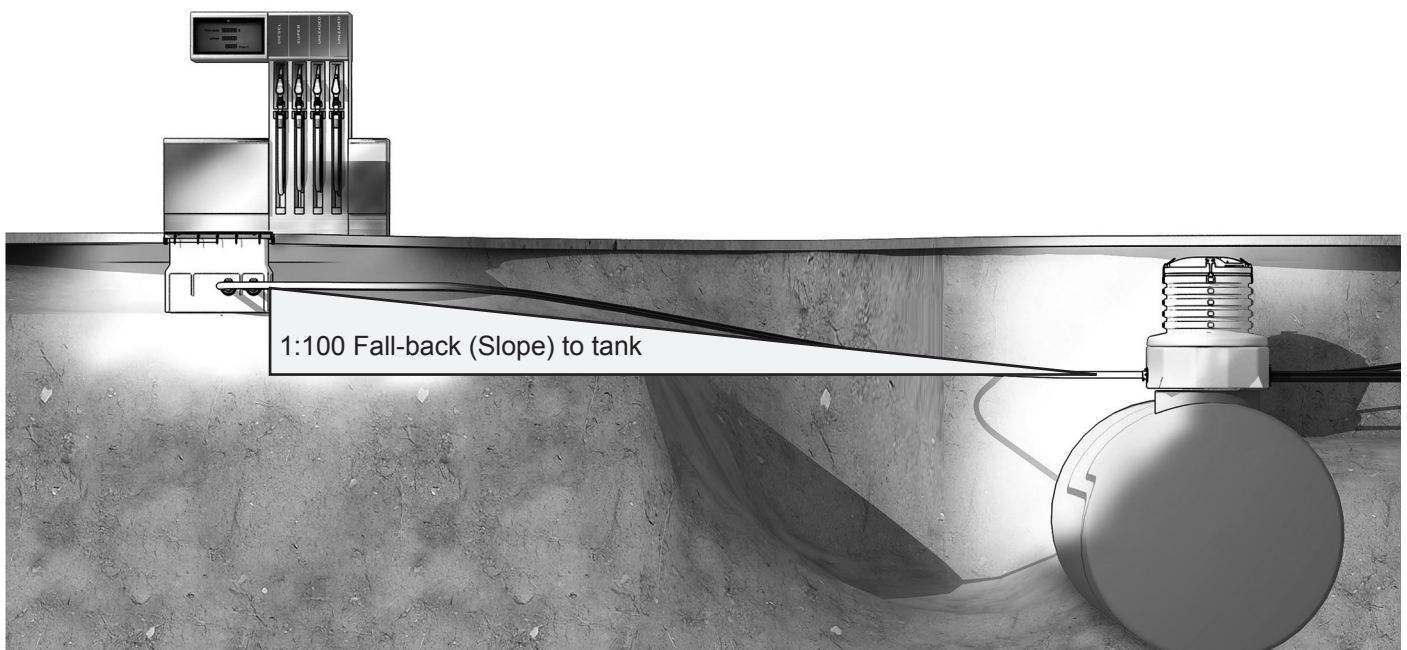

Figure 7: Fall-back (Slope) to Tank
- All trenches should be sloped back towards the storage tanks. The fall back (slope) for all pipework to the tank chambers should be a minimum of 1/8" per foot or 1 m every 100 m (Figure 7). This may vary to meet local requirements. The position of the entry fittings at the furthest dispenser sump away from the tank chambers may be considerably higher than that of the entry fittings on the closest dispenser sump.